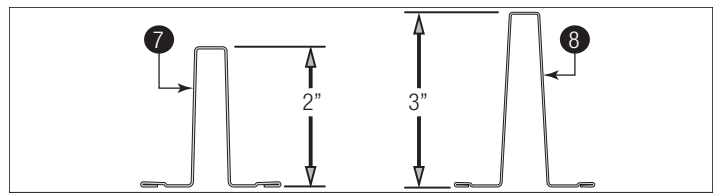

Figure 20
**IMPORTANT:** All struts (1) are placed at the top of the sections and up against the bottom of hinges (2), for the Bottom Section (3), Lock (Second) Section (4), and Intermediate Section(s) (5, 6).
**IMPORTANT:** Measure the height of your strut(s) to determine if you have 2" Struts (7) and or 3" Struts (8). See Figure 20.